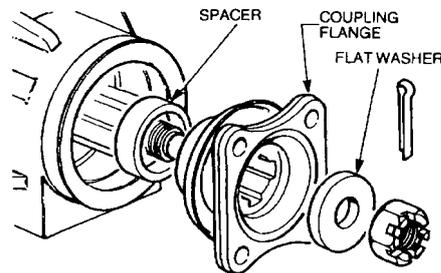

Figure 247 Installing the Coupling Flange – Early Version
- (1) **Early Version.** Install the early version pinion flange as follows:
- (a) Install the spacer, coupling flange and deflector assembly, flat washer and slotted nut (Figure 247).